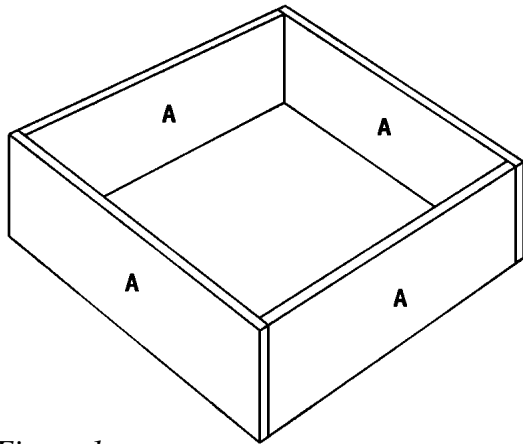

Figure 1
1. Cut four Lower Box Sides (A) from 3/8"-thick plywood, each measuring 15-1/8 x 14-3/4 inches.
2. Place two of the Lower Box Sides (A) on edge parallel to each other on a flat level surface and 14-3/4" apart. Place the remaining two Lower Box Sides (A) between the ends of the first two Lower Box Sides (A) as shown in *Figure 1*. Apply glue to the meeting surfaces, and nail the sides together using three 1" finishing nails on each joint. Nail through the face of the overlapping Lower Box Sides (A) into the end of the Lower Box Sides (A).
1. Cut four Lid Sides (C) from 3/8"-thick plywood, each measuring 2-1/4 x 14-3/4 inches.
2. Place two of the Lid Sides (C) on edge, parallel to each other on a flat level surface, and 14-3/4-inches apart. Place the remaining two Lid Sides (C) between the ends of the first two Lid Sides (C), as shown in *Figure 1*. Apply glue to the meeting surfaces, and attach the sides together by using 1" finishing nails. Nail through the face of the overlapping Lid Sides (C) into the end of the Lid Sides (C).
4. Cut four Inside Trims (G) from 3/8"-thick plywood, each measuring 2 x 11-1/2-inches.
5. Place two of the Inside Trims (G) on edge parallel to each other on a flat level surface and 11-1/2" apart. Place the remaining Inside Trims (G) between the ends of the first two Inside Trims (G) as for the Lower Box Sides (A) (see Figure 1). Apply glue to the meeting surfaces, and nail the sides together using two 1" finishing nails. Nail through the face of the overlapping Inside Trims (G) into the end of the Inside Trims (G).